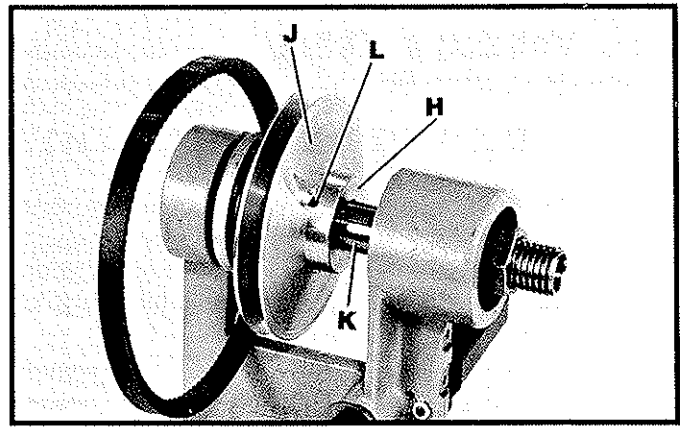

Fig. 91
8. Indicate the location of the spindle pulley hub (H), Fig. 91, on spindle (K) using a pencil. Then loosen set screw (L) and move spindle pulley half (J) to the left as shown and retighten set screw (L). **CAUTION: CARE MUST BE TAKEN TO HOLD PULLEY HALF (J) TO THE LEFT WHEN LOOSENING SCREW (L) AS THERE IS CONSIDERABLE SPRING PRESSURE, WHICH WILL MOVE THE PULLEY HALVES TO THE RIGHT.**